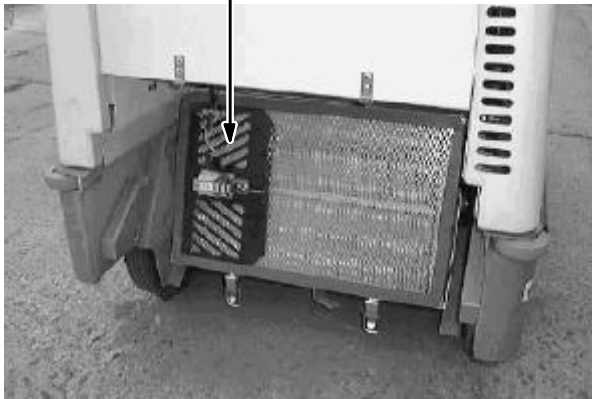

FIG. 3
2. Lower the filter to access the shaker solenoid. (Refer to FIG. 3)